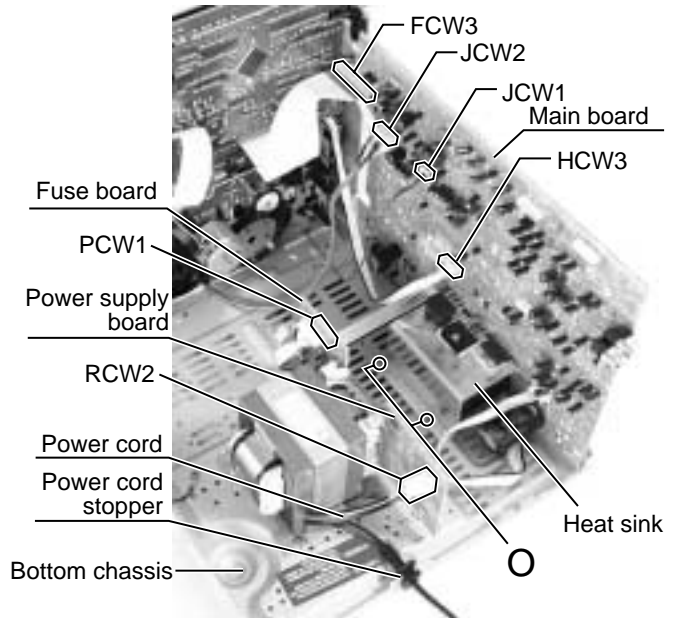

Fig.14
■Removing the main board (See Fig. 14)
■Removing the power cord (See Fig. 14)